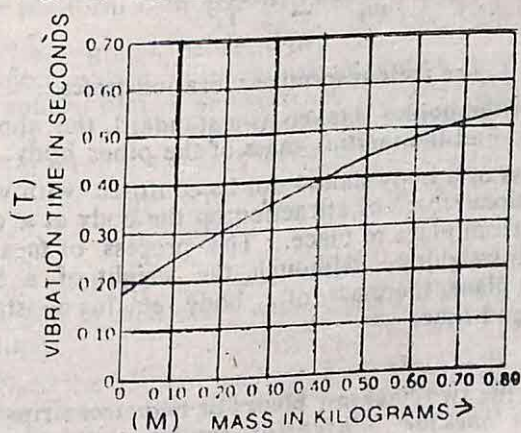

Fig. 4.3.
5. Plot a graph between the total mass (m) of the platform and the object placed on it and its vibration time (T). Fig. 4.3 shows a graphical plot of one such set of observations. The graph in Fig. 4.3 is not a straight line. But by careful analysis of the data, the relationship can be expressed by the following equation :
6. Place the body of unknown mass (M) on the platform. Let the platform oscillate horizontally as before. Measure the time period T' . For this value of T' , find out the total mass m' from m versus T graph as shown in Fig. 4.3.